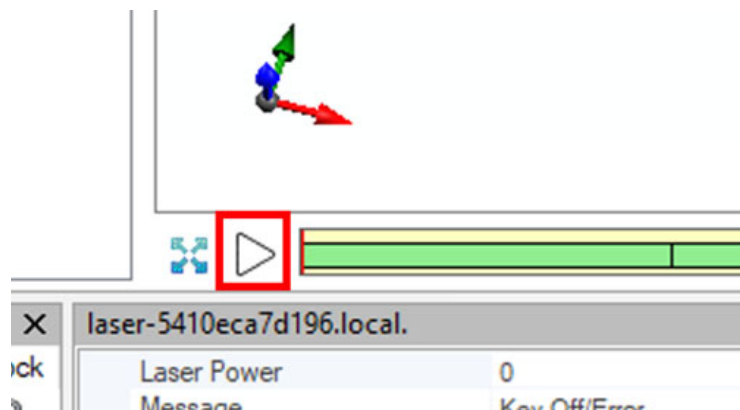

Figure 260: Basic Timeline Play Button
- Play Button - Starts a loop of the process visualization. See Figure 260 (below).